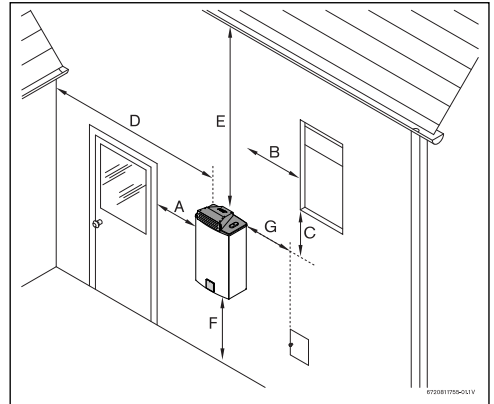

Fig. 1
**Best practice note:** The clearances in Fig. 1 and table 2 are the minimum allowed by the standard.